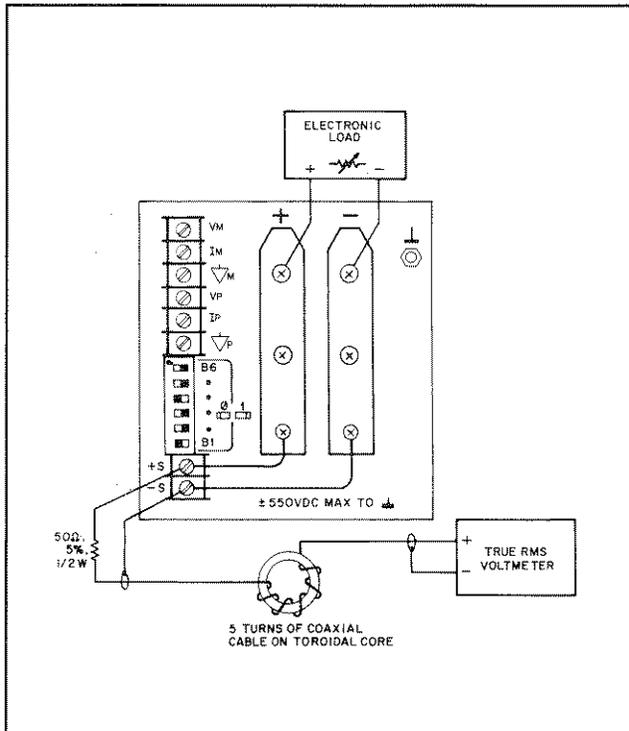

Figure 5-3. RMS Measurement Test Setup, CV PARD
Test Points: See Figure 5-3
- Connect the test equipment as shown in Figure 5-3. Operate the electronic load in constant resistance mode (Amps/Volt) and set resistance to maximum.
Use common mode choke as in Figure 5-3 to reduce ground loop currents from interfering with measurement. Reduce noise pickup on the test leads by using 50 Ω coaxial cable, and wind it 5 turns through the magnetic core to form the common-mode choke.